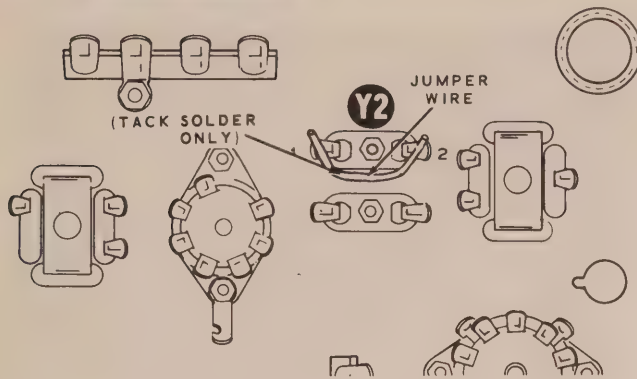

Figure 17
- ( ) Connect a short jumper wire between lugs 1 and 2 of crystal socket Y2 as shown in Figure 17.